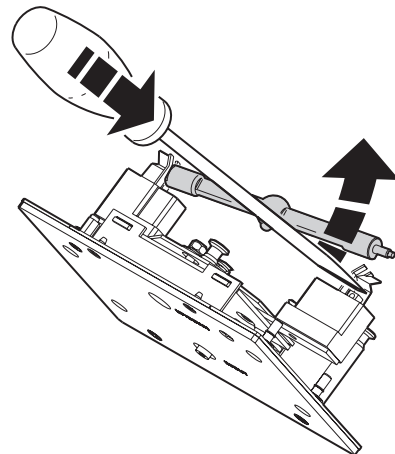

Figure 3: Lamp removal
3. Push down the retention spring on the right end of the socket and push out the pin. You can use a screwdriver to gently pry the lamp out of the socket as shown in Figure 3. Remove the lamp.